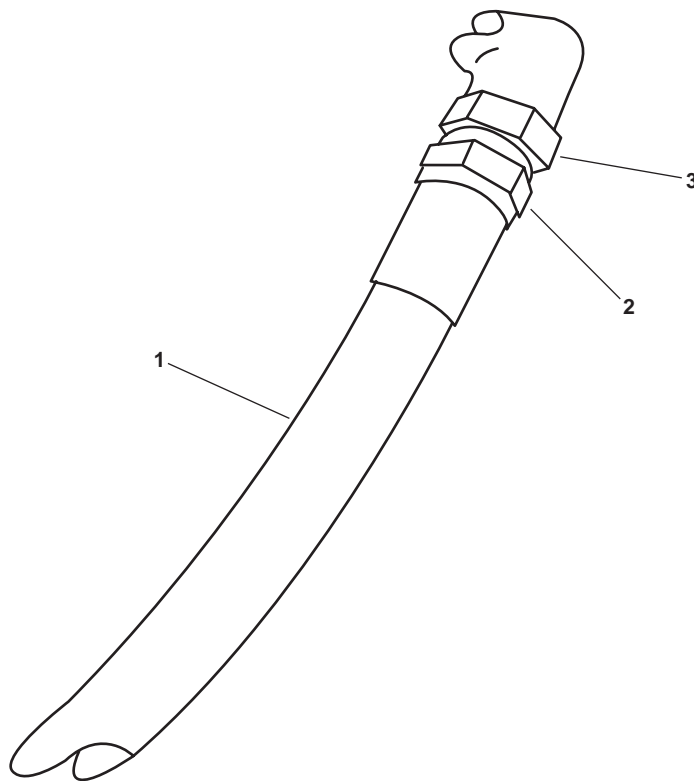

Figure 1. Hydraulic Hose
1. Remove the hydraulic hose (figure 1, item 1) by placing a wrench on the hydraulic hose fitting (figure 1, item 2) and a wrench on the hydraulic hose coupling (figure 1, item 3). Hold the hydraulic hose fitting in place with one wrench while turning the hydraulic hose coupling with the other wrench.
2. Install the hydraulic hose (figure 1, item 1) on both couplings (figure 1, item 3) by hand tightening only.
3. Tighten the hydraulic hose (figure 1, item 1) by placing one wrench on the hydraulic hose fitting (figure 1, item 2) and one wrench on the hydraulic hose coupling (figure 1, item 3). Hold the hydraulic hose fitting in place while turning the hydraulic hose coupling.